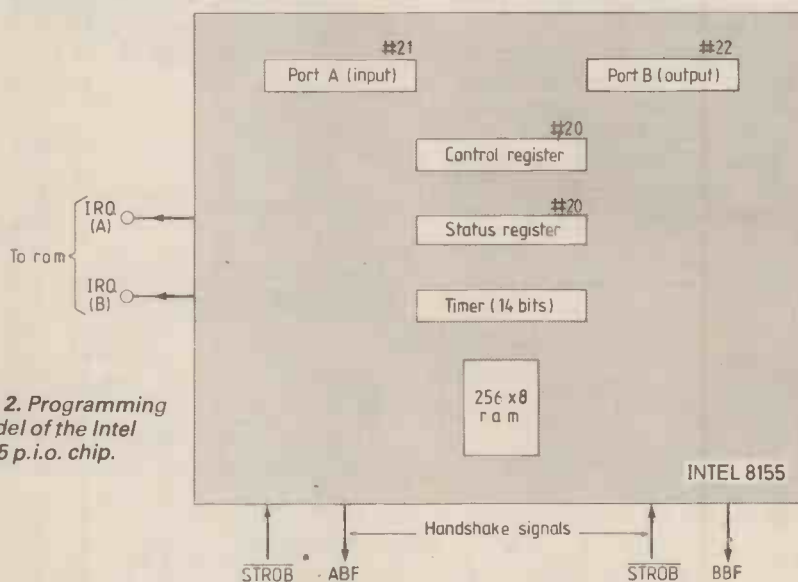
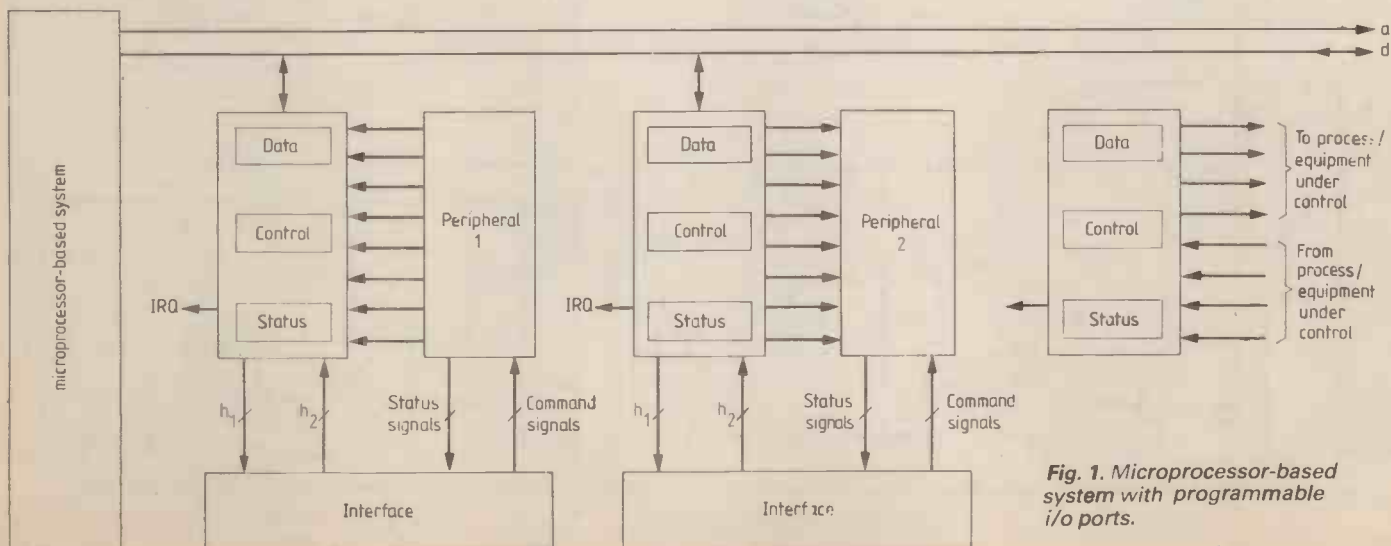

Fig. 2. Programming model of the Intel 8155 p.i.o. chip.
Fig. 1. Microprocessor-based system with programmable i/o ports.
Fig. 2. Use of a dummy shunt branch where a series arm contains more than two components. Values shown are for a 10MHz bandpass filter with midband frequency 12MHz and rejection points at 6 and 24MHz. Original configuration at (a), dummy shunt branch inserted at (b).
Fig. 2(a) shows a bandpass filter with a bandwidth of 10MHz, a mid-band frequency of 12MHz, and rejection frequencies at 8 and 24MHz. The series arm has the form of two parallel tuned circuits in series, i.e. a total of four reactances, usually the maximum number likely to be met with. The device in this instance is to add between points A and B a shunt inductor of such a magnitude that it cannot possibly have any practical effect on the loss and delay responses, Fig. 2(b). The original three-branch network is now converted to a five-branch ladder which can easily be handled by the program.
3MHz with a mid-band frequency of 2MHz and a rejection frequency at 0.8MHz. Because it has a bandpass characteristic it is possible to employ the analogue of Fig. 2(b), that is the series insertion of a very large capacitor, Fig. 3(b). The resulting five-branch ladder can now be treated normally. In this instance, there is an alternative which applies equally to lowpass structures, that is the insertion of a parallel tuned circuit with a zero-valued inductor and a capacitor of any nominal size, Fig. 3(c).
The most effective design strategy is to choose those i/o chips whose terminal characteristics can be programmed to match those of the peripheral in question. But such an objective however would be unrealistic because in practice the microprocessor system will have its own programmable i/o chips already interfaced to the microprocessor chip, as illustrated in Fig. 1. In situations like this a good starting point is to derive a simplified programming model of the i/o chip, omitting those features that are not likely to be used. Initially, a programming model should contain the ports, typically two per chip, the control and status registers. Programming models of the Intel 8155, p.i.a. and v.i.a. are shown in Fig. 2, 3 & 4.
- 1 – how the interface initiates an m.p.u. read operation for moving data into a microprocessor (from peripheral 1 in Fig. 1)
- 3 – how the interface initiates an m.p.u. write operation for moving data from the microprocessor to a peripheral m.p.u. (peripheral 2 in Fig. 1)
requested from the m.p.u. by pulling the STROB terminal in Fig. 2 low when the m.p.u. responds when the requested item of information has been loaded into the 8155, the signal on terminal BBF changes to 1.
and SFFB are bits 1 and 4 of the status register — see Fig. 2. Status flip-flop signals are normally made available on terminals for use as interrupt flags if desired. Such flags can be disabled by program; bit 2 in Fig. 2, when 0 disables interrupt flag IRQ(A).
Programming models of the 8155, the p.i.a. and v.i.a. are shown in Figs 2 & 3.
Programming model, Figure 2. The control word 0A disables the interrupt terminals and to program the 8155 i/o chip to function in the following way.